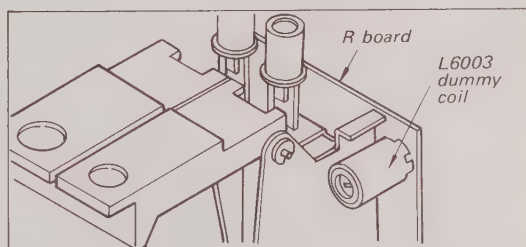

Fig. 9-5. Audio dub dummy coil adjustment
3. Adjust the dummy coil L6003 on the R board (See Fig. 9-5) mounted on the record function button assembly for a same value as in the RECORD mode.